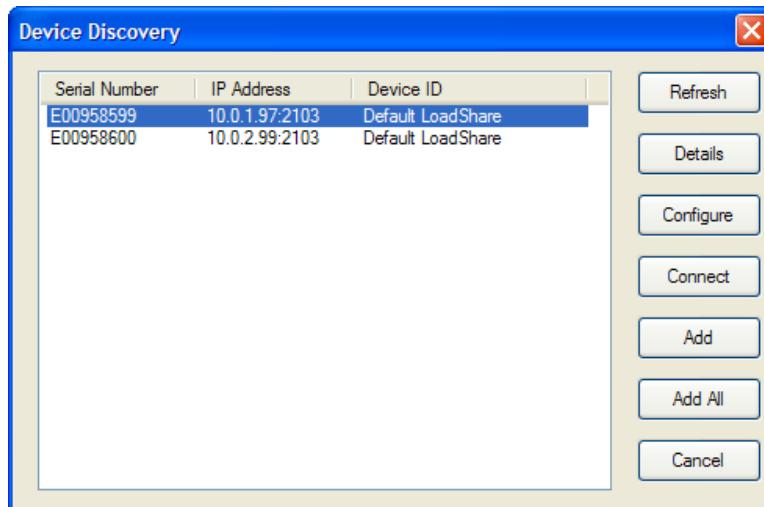

Figure 4-9. Device Discovery Screen
4. After scanning for connected devices, the *Device Discovery* screen appears. See Figure 4-9.